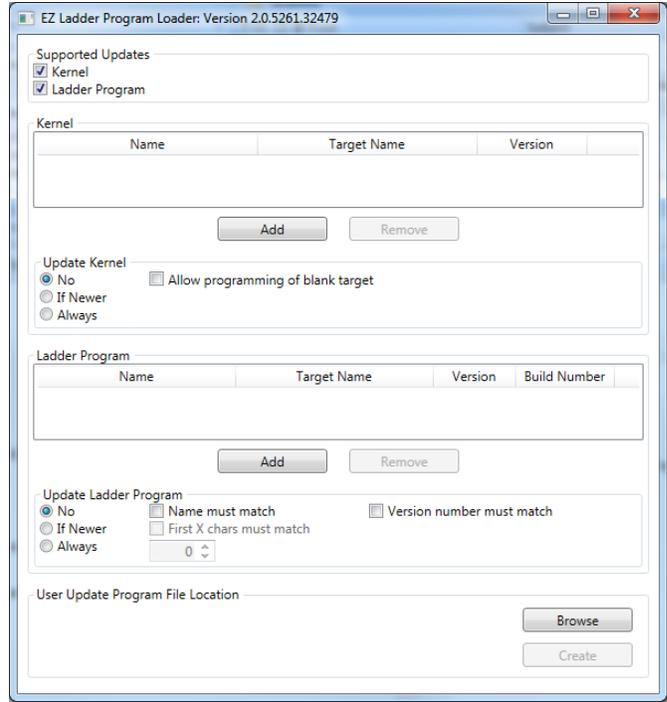

Figure 2
1. With the OEMSetupProgram.exe window open, select the type of updates you want to include in the executable file that will be provided to the customer. The Kernel and Ladder Program can both be selected. Only select the updates to be included in the executable. Figure 2 shows both checkboxes selected for updating the Kernel and Ladder Program.